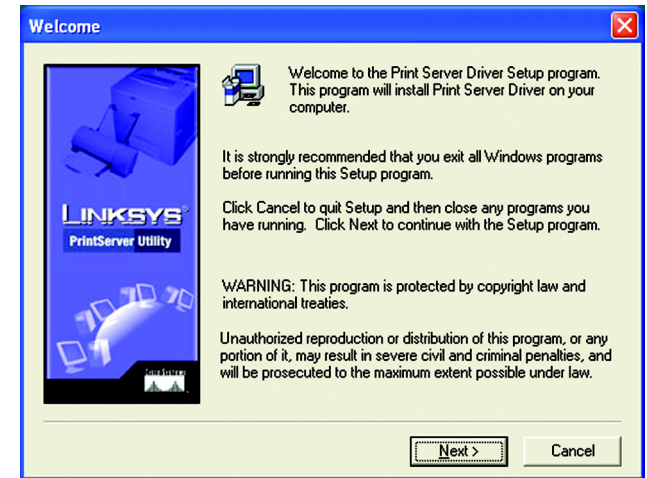

Figure 5-2: Driver Setup Welcome
4. The *Welcome* screen of the driver installation program, Figure 5-2, will appear first. Click **Cancel** to quit the setup program and then close the open programs. Click **Next** to continue with the driver installation.